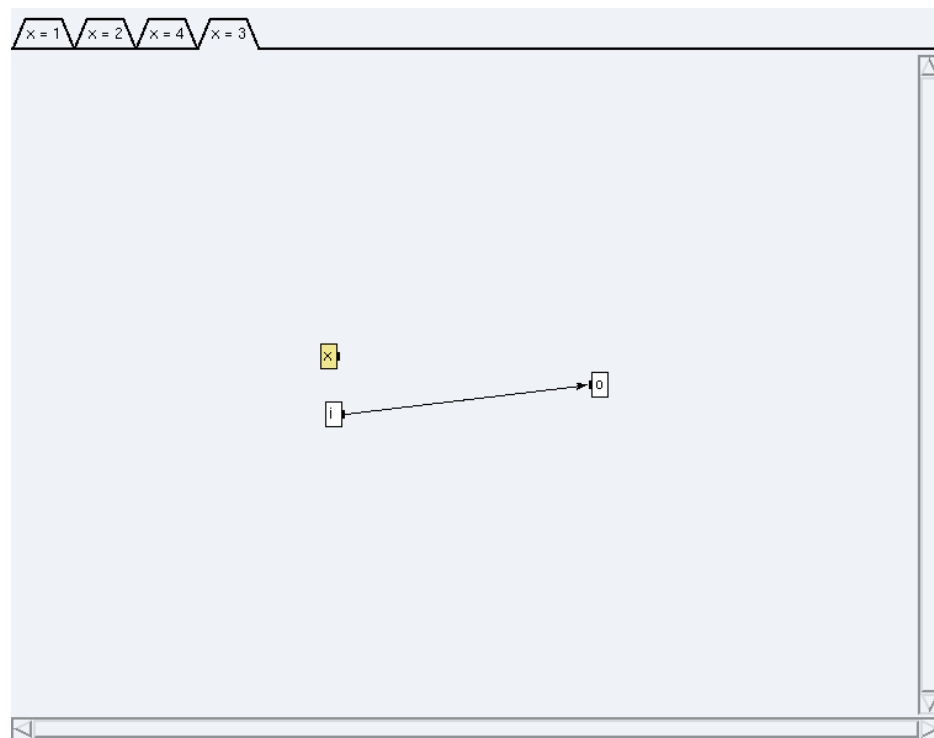

Figure 5.4: Condition $x=3$
- * click on the condition **`x=3`** (*cf.* figure 5.4) and connect the port `i` to the port `o`,